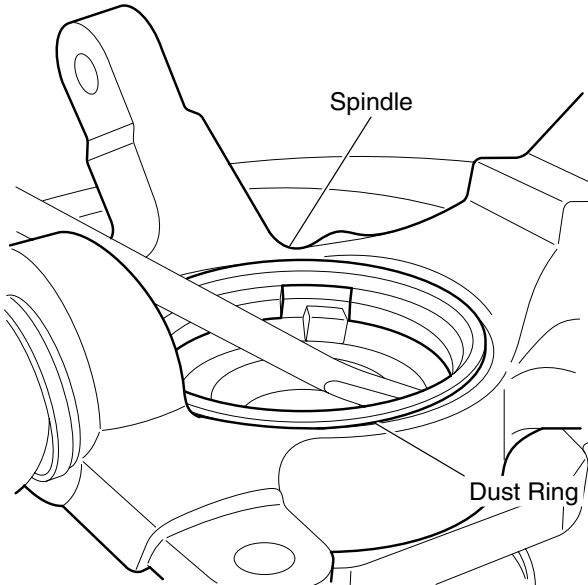

Figure 1. Ball Joint Removal
1. Remove the dust boot and wheel bearing dust ring as shown in Figure 1.